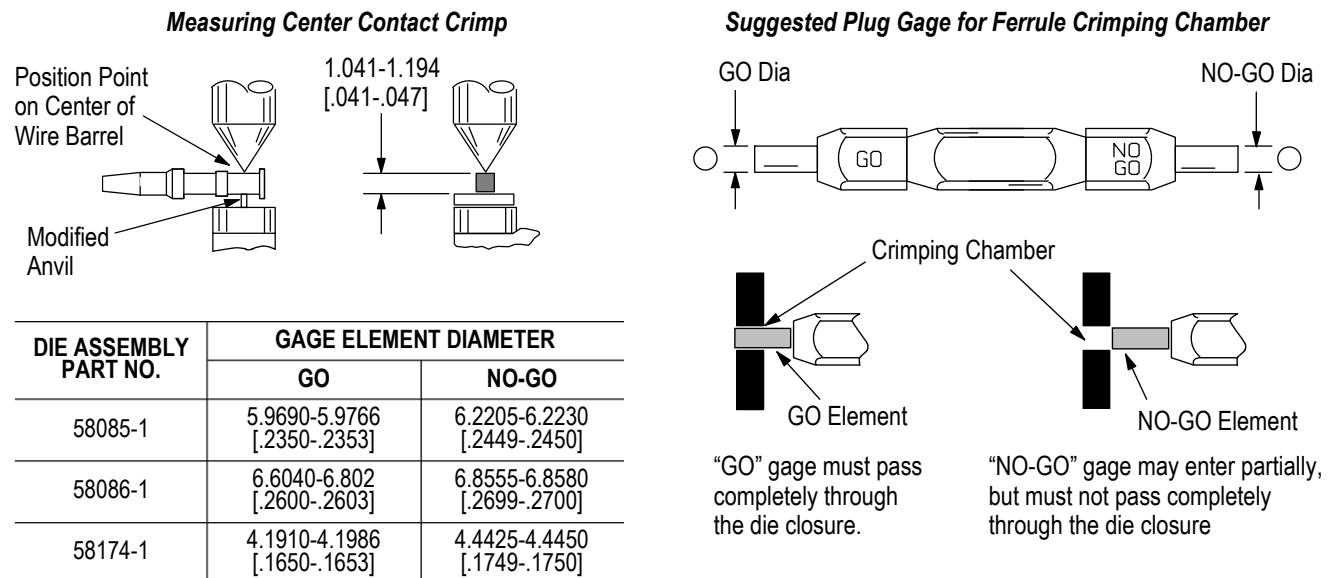

Figure 5
3. Using a crimp height comparator, measure the crimp height as shown in Figure 5. If the crimp height conforms to that shown, the die assembly is considered dimensionally correct. If not, the dies must be replaced before returning them to service (refer to Section 7, REPLACEMENT).
This inspection requires the use of a plug gage conforming to the diameters in Figure 5. TE does not manufacture or market these gages.